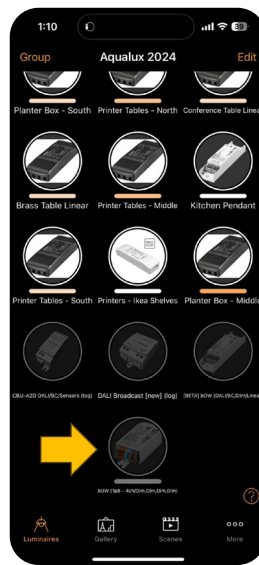

FIG. 11
6. After network selection, the app integrates the new dimmer and displays all existing dimmers in the network. The control interface for luminaires appears with a yellow arrow indicating successful dimmer addition (Fig. 11).